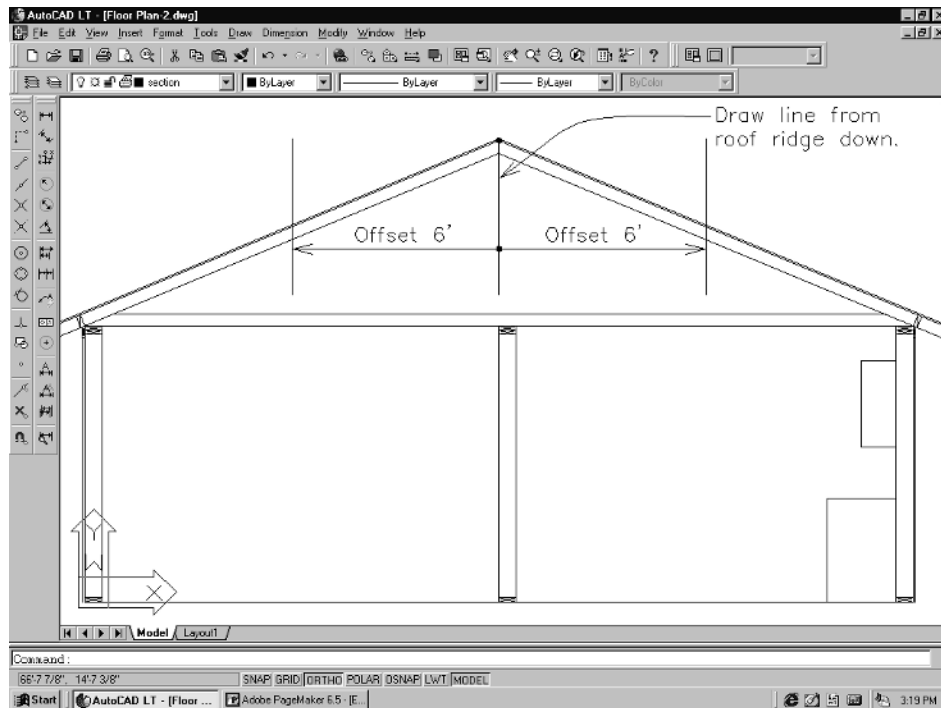

Figure 3-65
1. To actually draw the truss webbing, draw a line at the intersection of the roof ridge. Then, offset it 6' to the left and 6' to the right. The intersections of these lines and the top roof line will be the center points for the tops of the 2x4 webbing. See Figure 3-65.